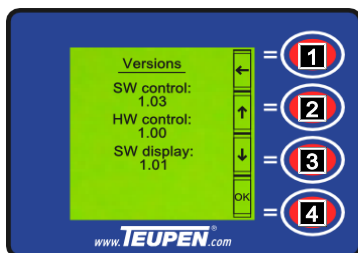

Fig. 86
1. Use the [function key] (Fig.86/1) to return to the machine data menu.